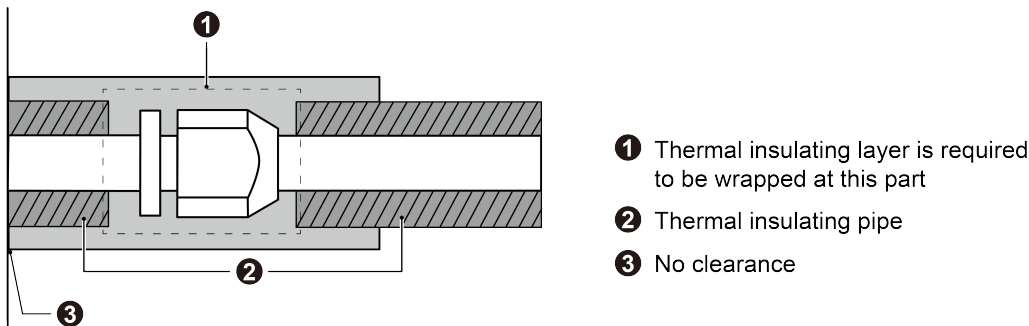
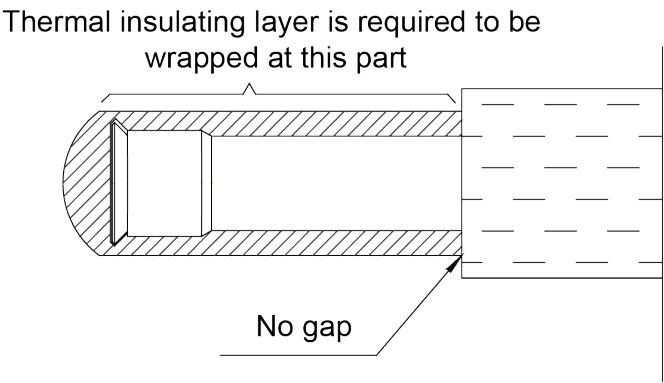
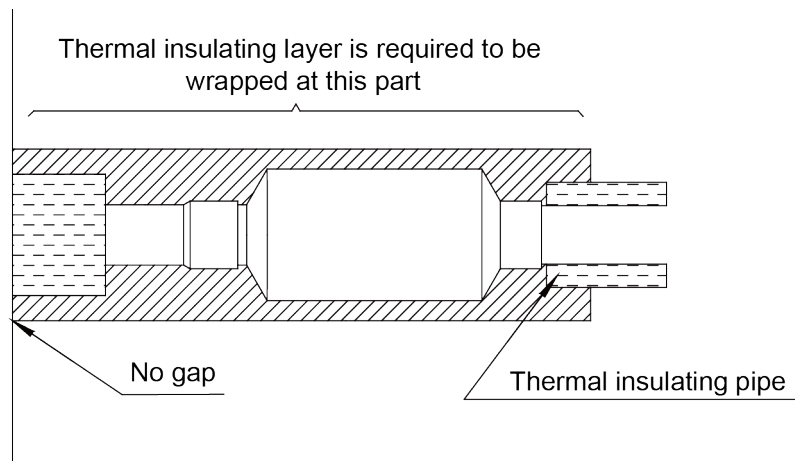

Fig.4.2.13
Fig.4.2.14
Fig.4.2.15
- 4) Joints of indoor and outdoor unit should be wrapped with insulating material and leave no gap to surfaces of indoor unit and outdoor unit. See Fig.4.2.13 , Fig.4.2.14 and Fig.4.2.15.